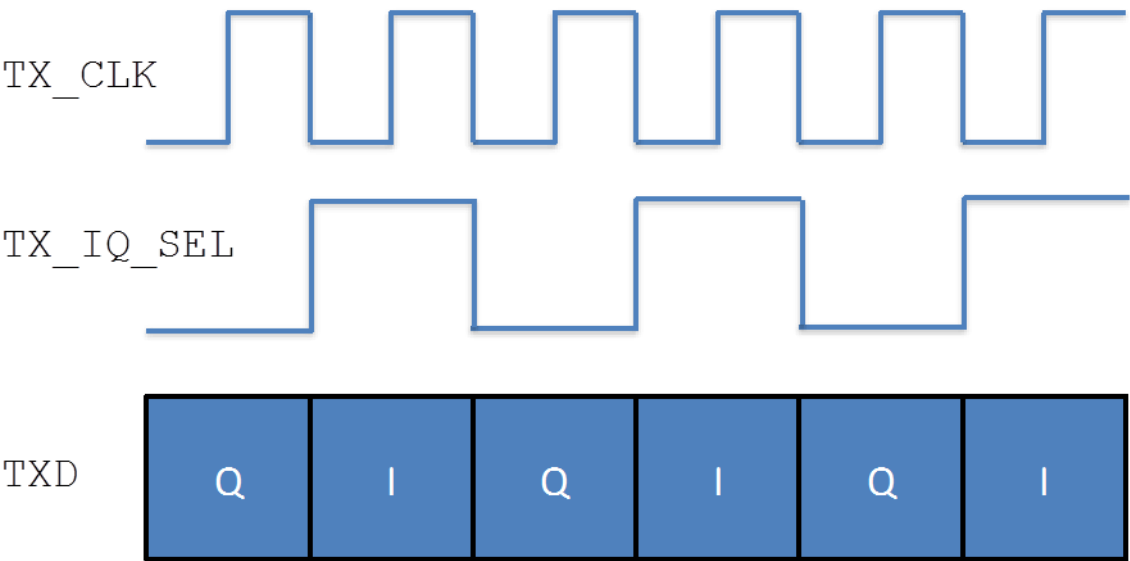

Figure 1 - DAC interface signaling.
TX/DAC control is straightforward with signals described in Table 2. A timing diagram is shown in Figure 1. Note that the TX\_CLK signal should be half the TX\_IQ\_SEL signal frequency. Inphase (I) and quadrature (Q) data is interleaved with I corresponding to TX\_IQ\_SEL being high and Q corresponding to TX\_IQ\_SEL being low.